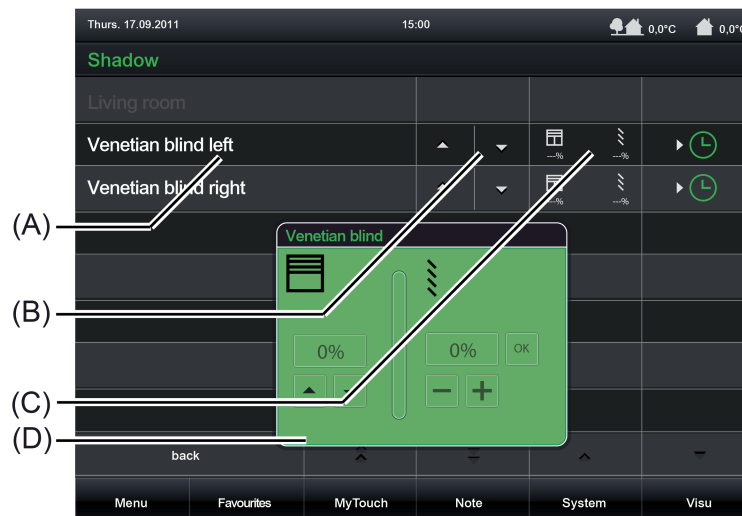

Figure 22: Example of operating and display elements of the function "Blind positioning"
The display area contains different display elements (Figure 22) that are influenced by parameters. A name can be assigned to each KNX function in the configuration software (A). The sensor surface for direct operation (B) displays two buttons, or depending on the configurations in the configuration software, which trigger value telegrams "100%" or "0%" (after a brief touch/affecting the blind/shutter object) or position telegrams in gradual intervals (after a long touch) when they are touched. The display area (C), which is a sensor surface for dialog operation at the same time, will contain position values as a bar graph and in plain text ("0...100 %") depending on the object value of the venetian blind actuator feedback. After a device reset, the display shows "---%" until feedback object values of the status values are received or position values are specified.